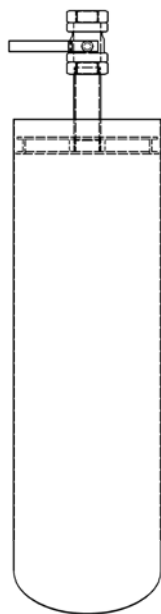

Figure 11
Step 1: Insert the bag into the filter disk from the bottom up. The operator must pay attention to place the bag a bit higher than the disk (Figure 11).